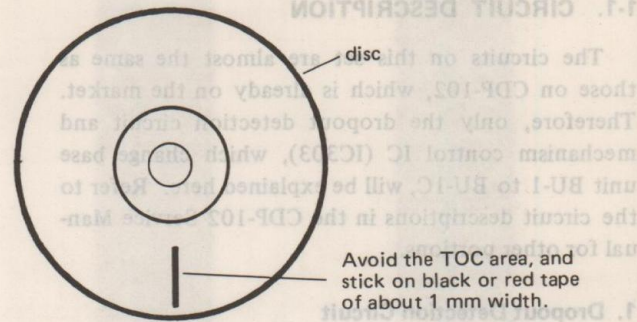

Fig. 3 Tape Location
(Measured on YEDS-1 disc with tape of about 1 mm width stuck on as in Fig. 3)
1. Stick black or red tape (about 1 mm wide) onto the disc as shown in Fig. 3. (This is to get the dropout detection circuit output pulse.) Do not stick it on the part where the TOC is recorded, however.